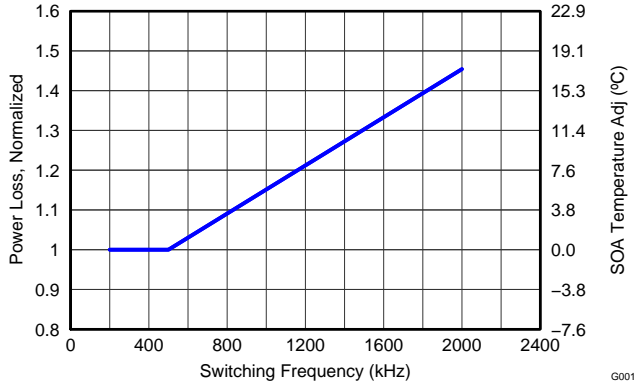

Figure 12. Normalized Power Loss vs Frequency
- Normalized Power Loss for switching frequency  $\approx$  1.09 (Figure 12)
- SOA adjustment for switching frequency  $\approx$  3.4 $^{\circ}$ C (Figure 12)